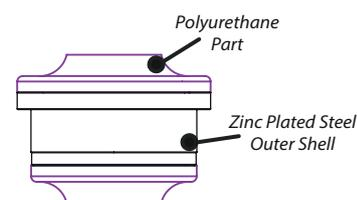

Figure 3
3. Press in the polyurethane bush into the zinc plated steel outer shell, with the smaller lip diameter of the polyurethane bush being pushed in first so that the larger diameter of the bush and the larger diameter of the outer shell sits flush together (Figure 3).